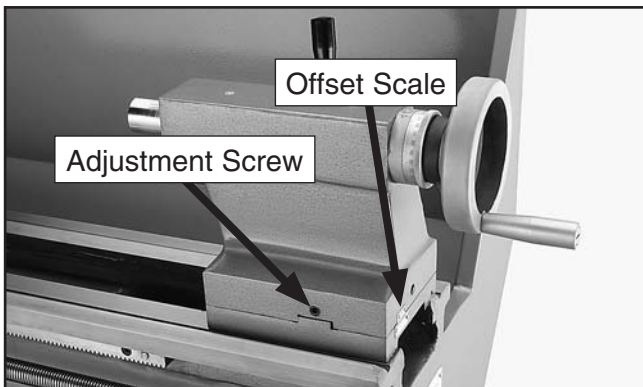

Figure 36. Offset scale.
2. Alternately loosen and tighten the two adjustment screws until the desired offset is indicated on the offset scale (see **Figure 36**).